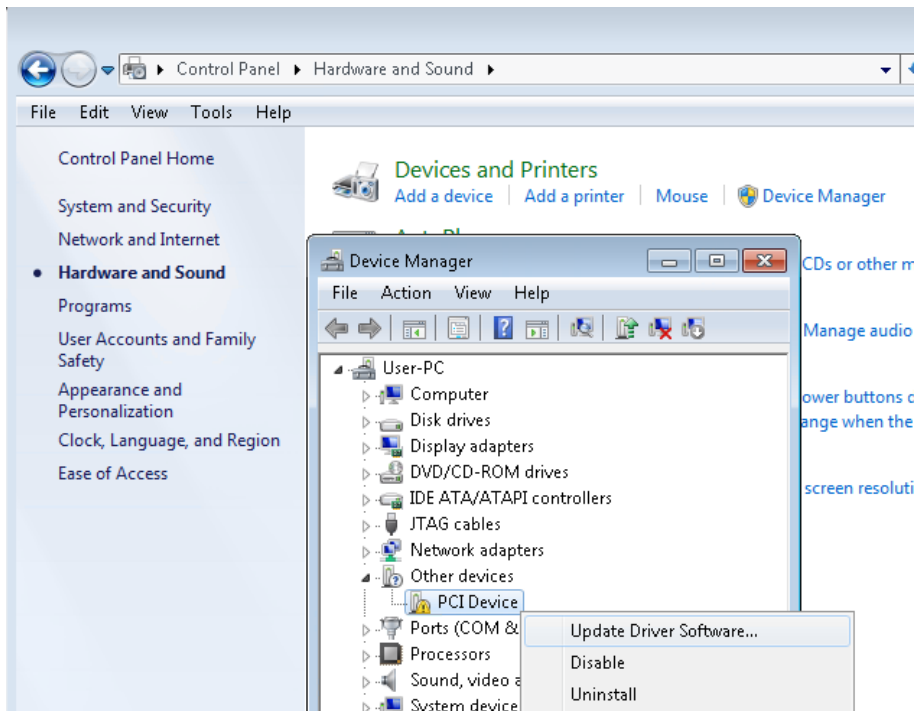

Figure 6-3 Screenshot of launching Update Driver Software... dialog
5. Click Control Panel menu from Windows Start menu. Click Hardware and Sound item before clicking the Device Manager to launch the Device Manager dialog. There will be a PCI Device item in the dialog, as shown in **Figure 6-3**. Move the mouse cursor to the PCI Device item and right click it to select the Update Driver Software... item.